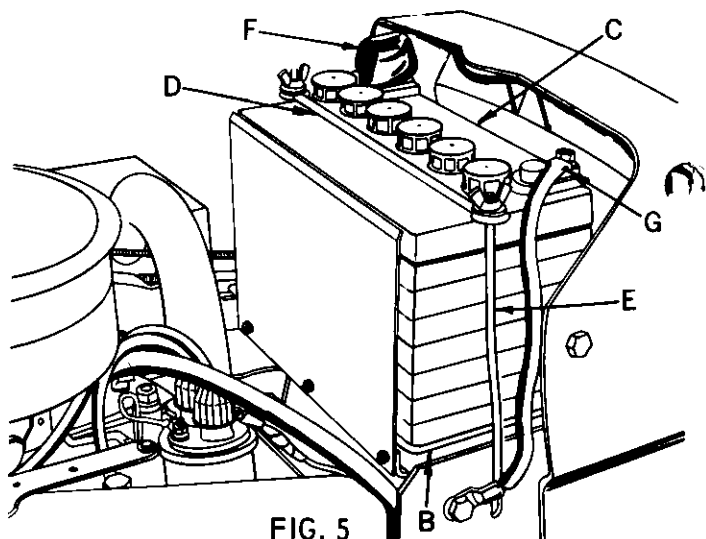

FIG. 5
4. Place battery (C) in plastic tray (B) with battery terminals to rear of tractor as shown.
5. Assemble battery clamp (D) to one of the two (2) battery bolts (E) with a 5/16 x 3/4 flat washer, and wing nut above clamp as shown. Hook lower end of battery bolt in slot in side of battery support as shown. Place clamp across top of battery, and secure other battery bolt to battery support and clamp with other flat washer, and wing nut. Tighten wing nuts securely.
6. Connect cable and cover (F) Fig. 5 to plus (+) terminal battery. Secure with 1/4 hex nut found in plastic bag. Tighten nut securely.
7. Connect ground cable (G) (Fig. 5) to negative (-) terminal of battery. Secure with other 1/4 hex nut found in plastic bag. Tighten hex nut securely.